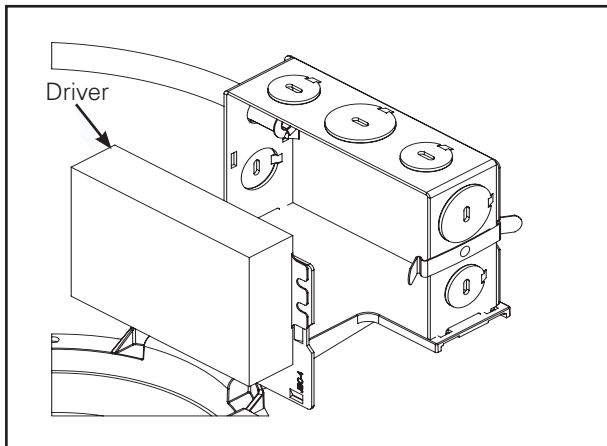

Figure 15
1. Remove the driver and junction box cover assembly. (Figure 15.).